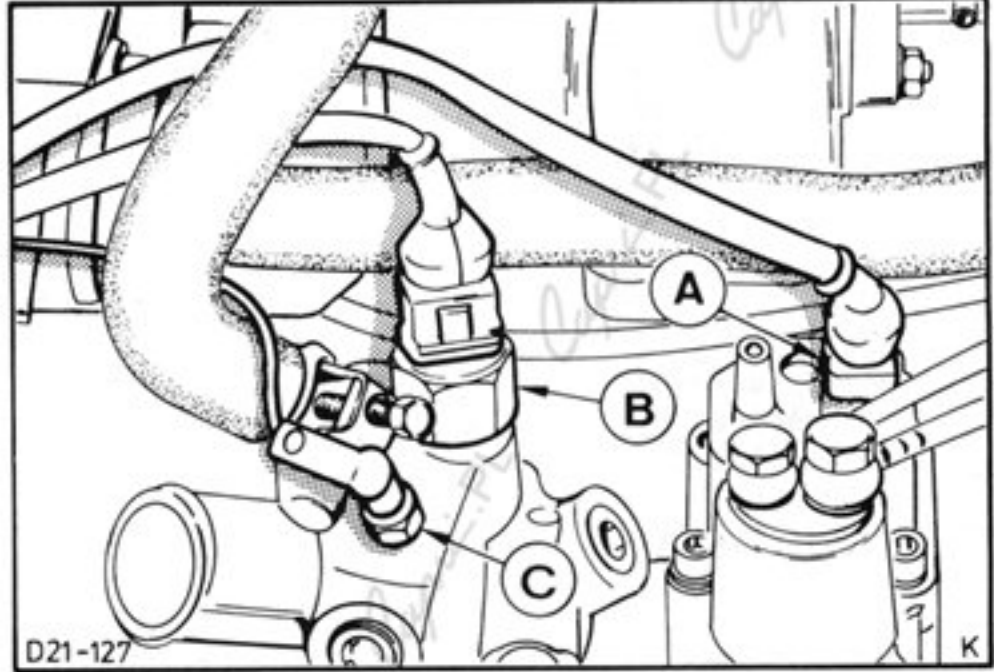

Fig.82. Disconnect electrical leads.
6. Disconnect leads from thermometer sensor, thermo time switch, warm-up regulator, auxiliary air device and valve Fig.82.